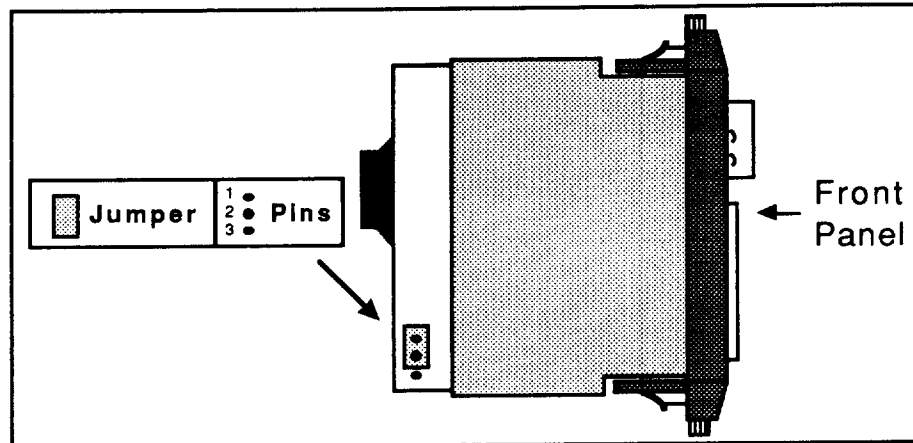

Figure 2-2. Location of Jumper for Standard Card Cage
- In a standard rack system, the jumper (refer to Figure 2-2) must be placed over pins **1 and 2**.
- In an extended PLC cage, the jumper (refer to Figure 2-2) must be placed over pins **2 and 3**. The jumper disables the 1XX (octal) addresses on the card. Figure 2-2 shows the location of the jumper.